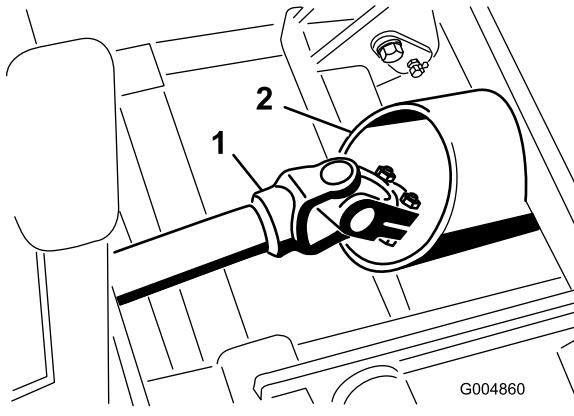

Figure 17
4. Carefully roll the winter frame assembly into position while routing the drive shaft through the frame tube (Figure 17).